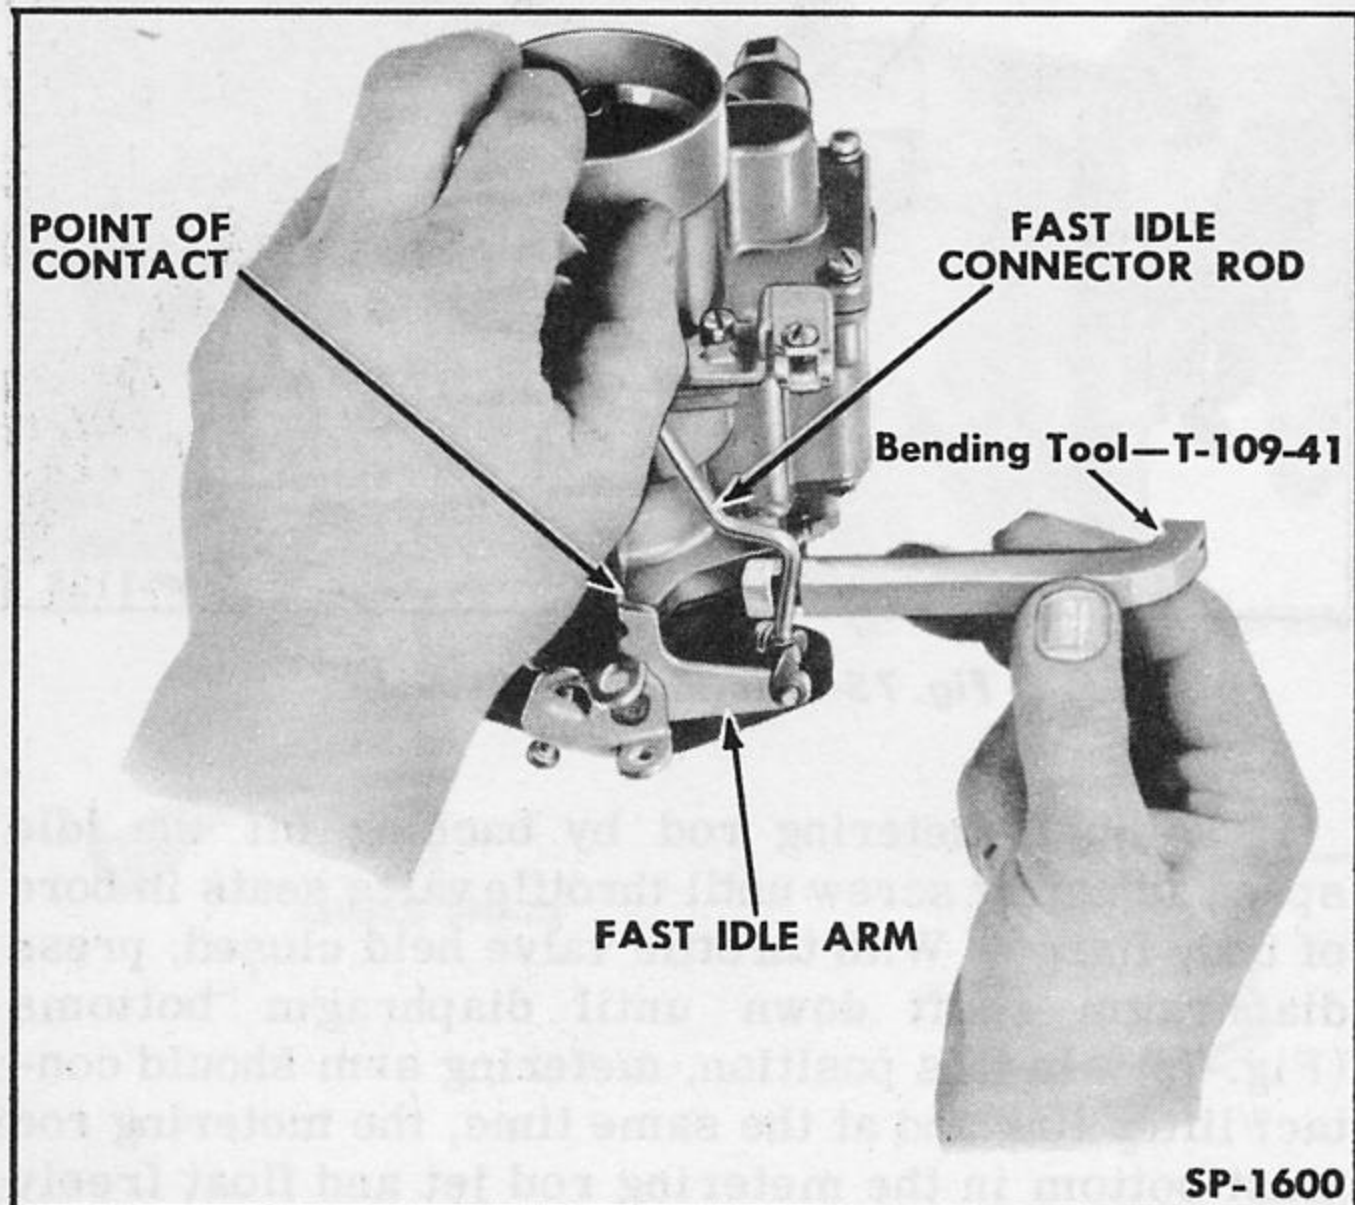

Fig. 77—Fast Idle Adjustment
17. Make fast idle adjustment by holding choke valve in wide open position, then, if necessary, bend fast idle connector rod as shown in Fig. 77 until lip of fast idle arm contacts boss on main body casting.
2. If necessary, bend fast idle connector rod as shown in Fig. 77 until fast idle arm contacts boss on main body casting.